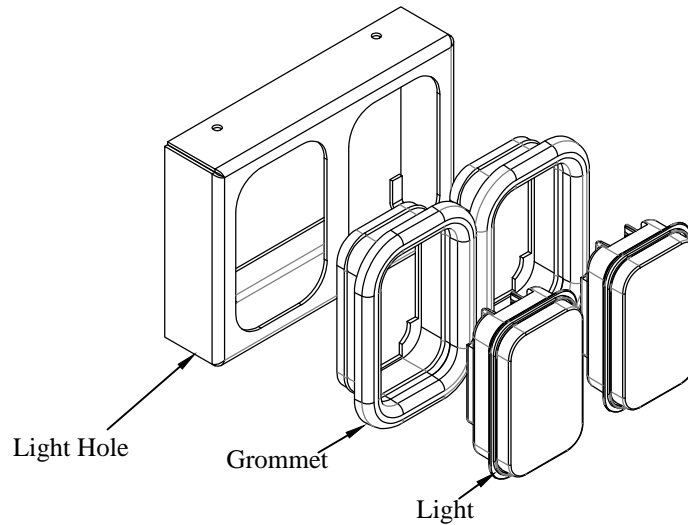

Figure 7
Step 9. Press rubber grommets into light holes (Figure 7).